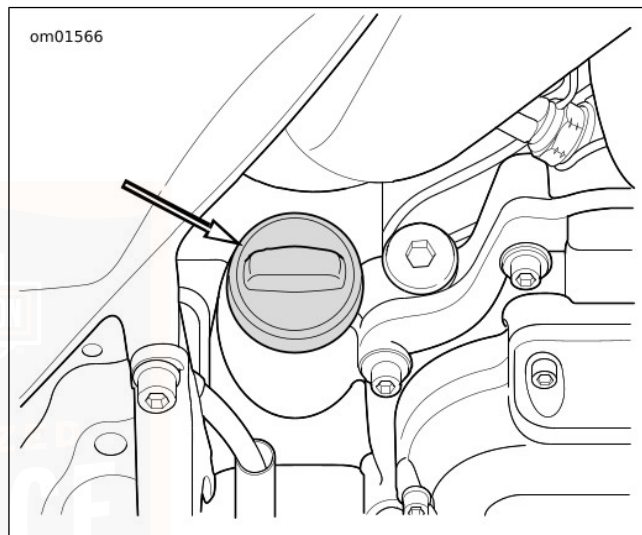

Figure 64. Engine Oil Filler Plug
2. See Figure 64. Check engine oil level.
3. See Figure 64. Check oil level.